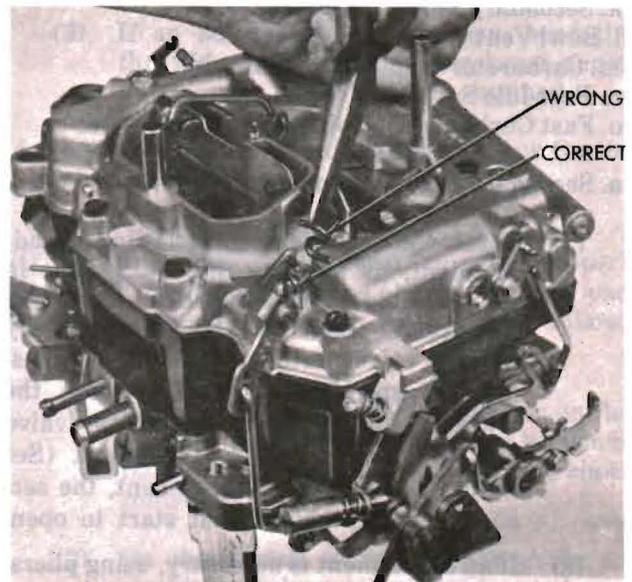

Figure 19. Correct Installation of Pump Rod "S" Link
- (15) Install the fuel inlet fitting with a new gasket and tighten it securely.
- (16) Engage the pump "S" link with hole in accelerator pump arm, then position arm on air horn and install pump arm screw. (See figure 19.)
- (17) Engage the throttle connector rod with hole in throttle lever. Insert the other end in accelerator pump arm (center hole) and install both rod retainers.
- (18) Install the step-up piston spring in piston cylinder, followed by step-up rods and piston and link assembly. Install cover plate and attaching screws. Tighten the screw securely. (Slide No. 2182)
- (19) Engage the choke connector rod with hole in choke valve lever, then swing the rod at an arc until rod can engage choke countershaft. Install the choke lever.
- (20) Engage the fast-idle connector rod with the slot in fast-idle operating lever, swing the rod at an arc until the lever can engage the choke countershaft (with choke valve held in open position). Install lever and attaching screw. Tighten screws securely while holding the lever.
- (21) Engage the choke diaphragm connector rod to the air valve lever, then install a washer and rod retainer. Connect the other end to choke vacuum diaphragm plunger and install a rod retainer.